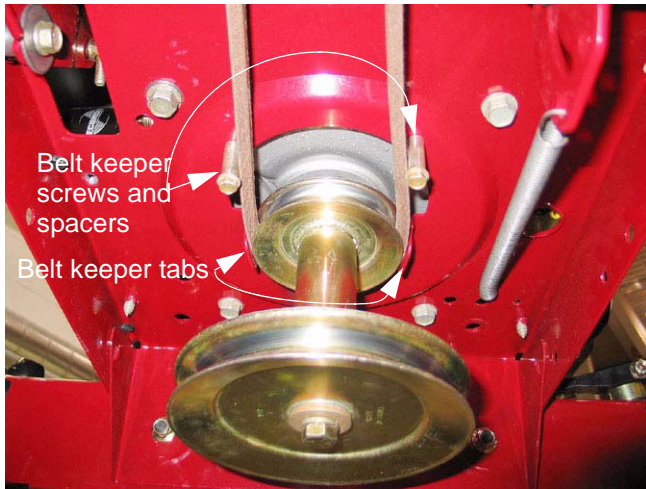

Figure 6.15
3. Remove the crankshaft pulley using a 5/8" wrench. See Figure 6.15.